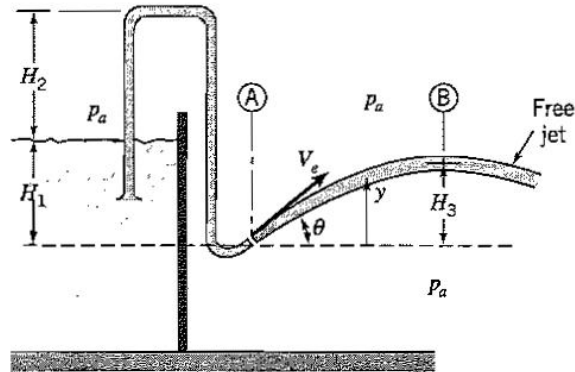

Figure P4.32
4.32 A tube of constant area A_t is used as a siphon, and it draws fluid of constant density ρ without loss from an infinitely large reservoir, as shown in Figure P4.32. The fluid exits with velocity V_e , at an angle θ to the horizontal, at a distance H_1 below the surface of the reservoir.